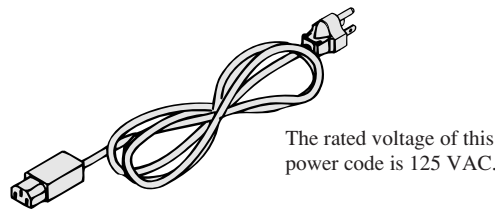

Fig.1-6 Accompanying power cord with a three-prong plug
- Because the rated voltage of the AC power code with a three-prong plug shown in Fig. 1-6 is 125 VAC, even when the plug is removed and crimp terminals are attached, it cannot be used.